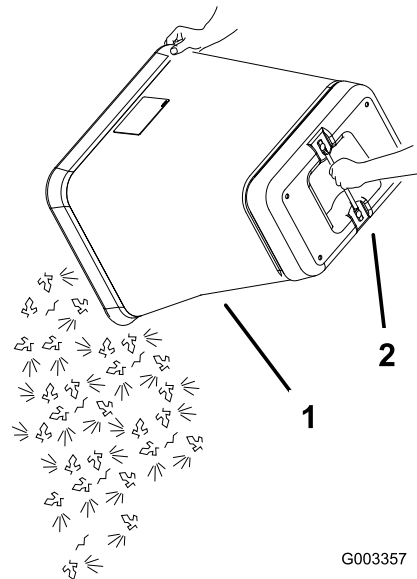

Figure 27
6. Grab the handle on the bottom of the bag and tip it over to empty the bag (Figure 27).